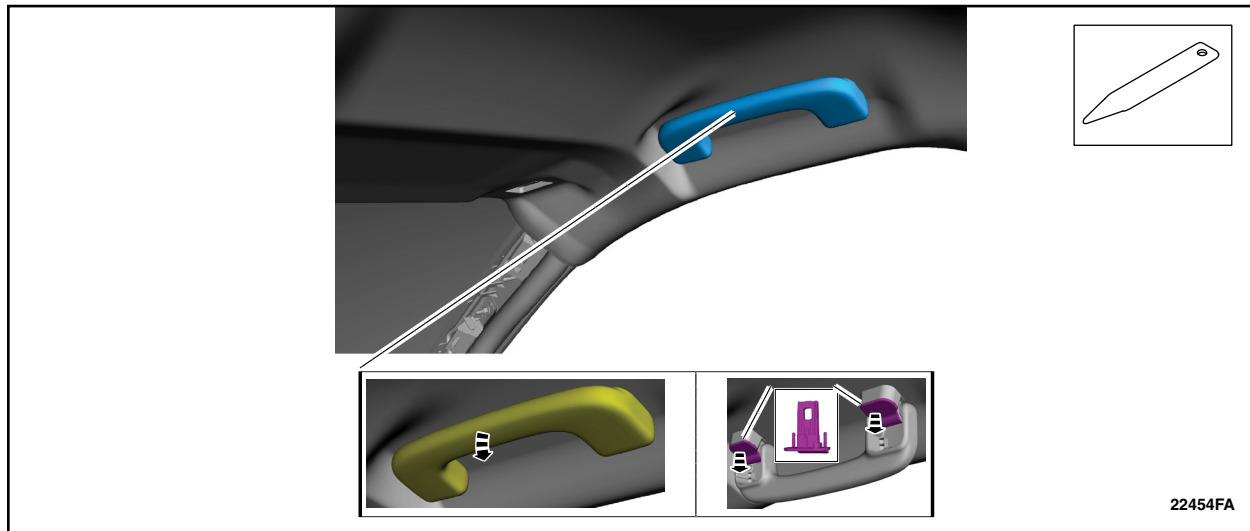

FIGURE 14
17. On the RH side position the front assist handle down, remove the front assist handle retainers and remove the front assist handle. See Figure 14.